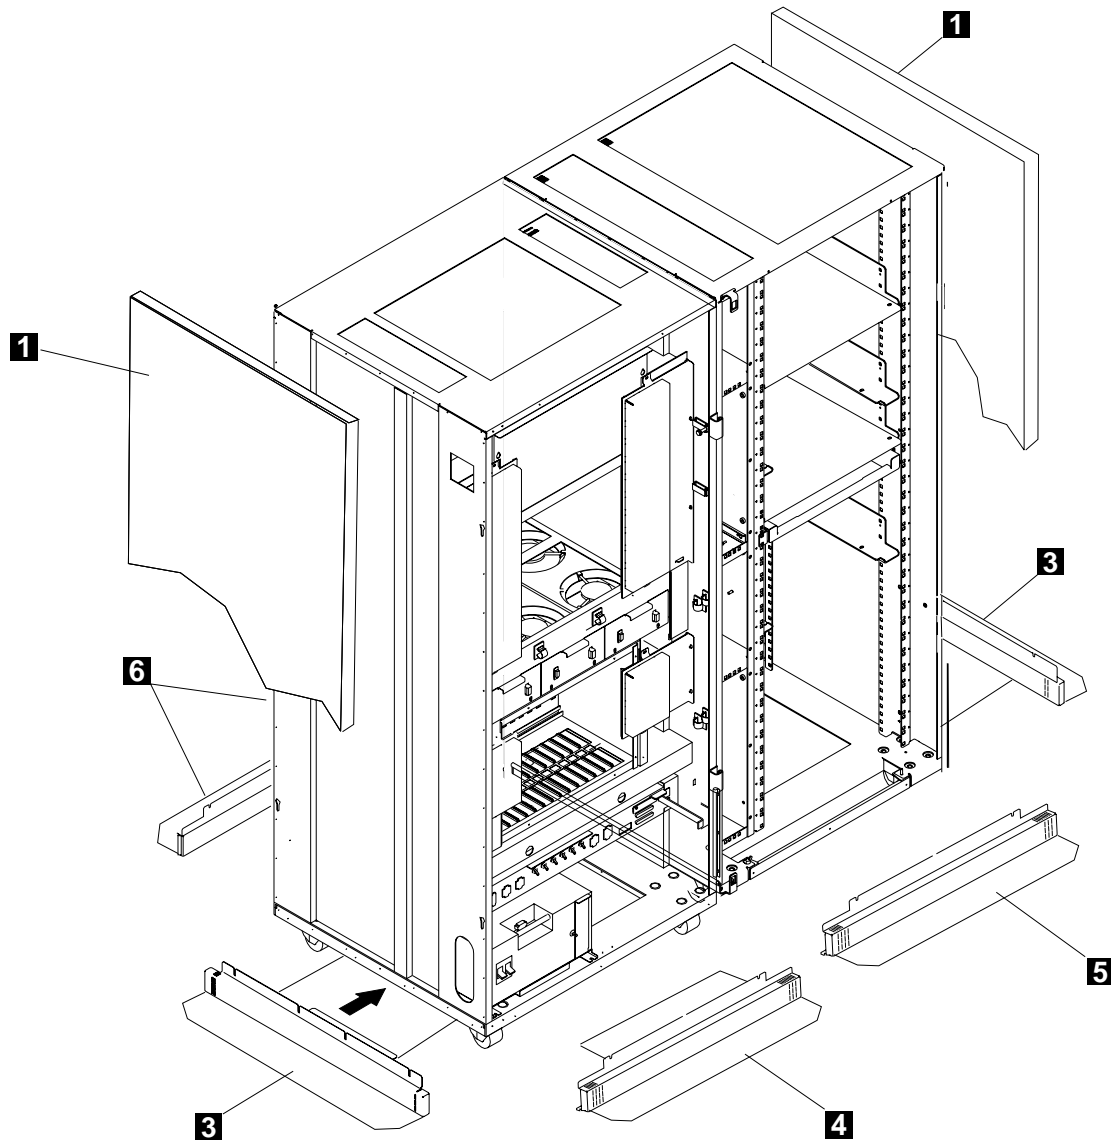

Figure 5-1. 3746-950 and Controller Expansion Ground Brackets (Front View)
- ____ Install the front ground plate **4** (PN 58G5677) and left ground plate **3** (PN 58G5676) using screws (PN 2665527) (refer to Figure 5-1 on page 5-3).
- ____ Install the front ground plate **5** (PN 58G5675) and the right ground plate **3** (PN 58G5676) using screws (PN 2665527) (refer to Figure 5-1 on page 5-3).